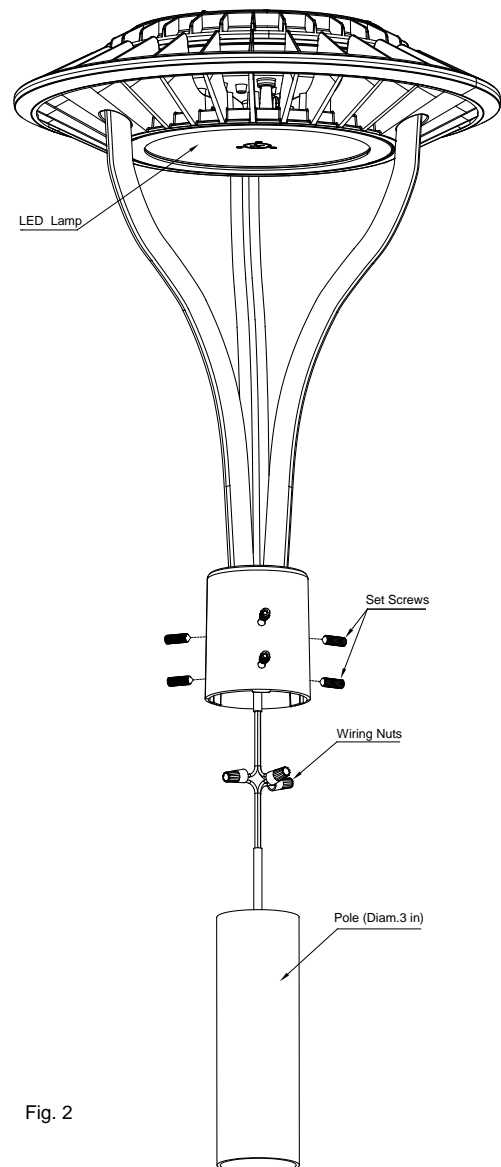

Fig. 2
2. Place the luminaire close to the pole and make the appropriate wiring connections using wire nuts (White to Neutral lead, Black to Line lead, Green to Ground lead) (Fig. 2).
3. Mount the luminaire on the pole using the six Alloy Steel Cone-Point Set Screws (Fig. 2).